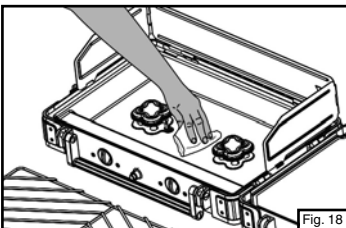

Fig. 18
- Wipe clean with soft cloth and mild dish detergent. Do not use abrasives (Fig. 18).